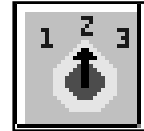
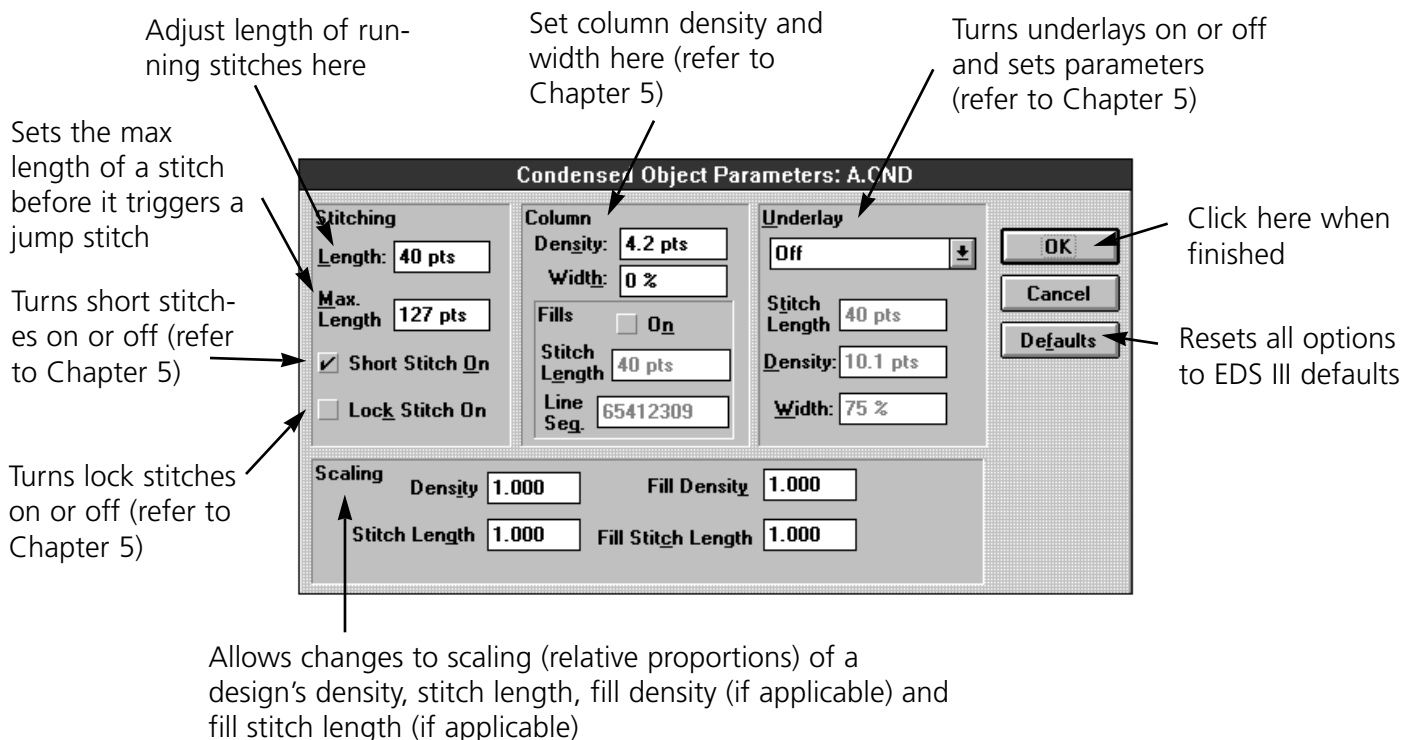

Figure 7-15
Figure 7-16
2. Click on the object. A box appears around the object and the Adjust tool becomes highlighted (Figure 7-15). Click on the Adjust tool to display the Adjust dialog box (Figure 7-16).